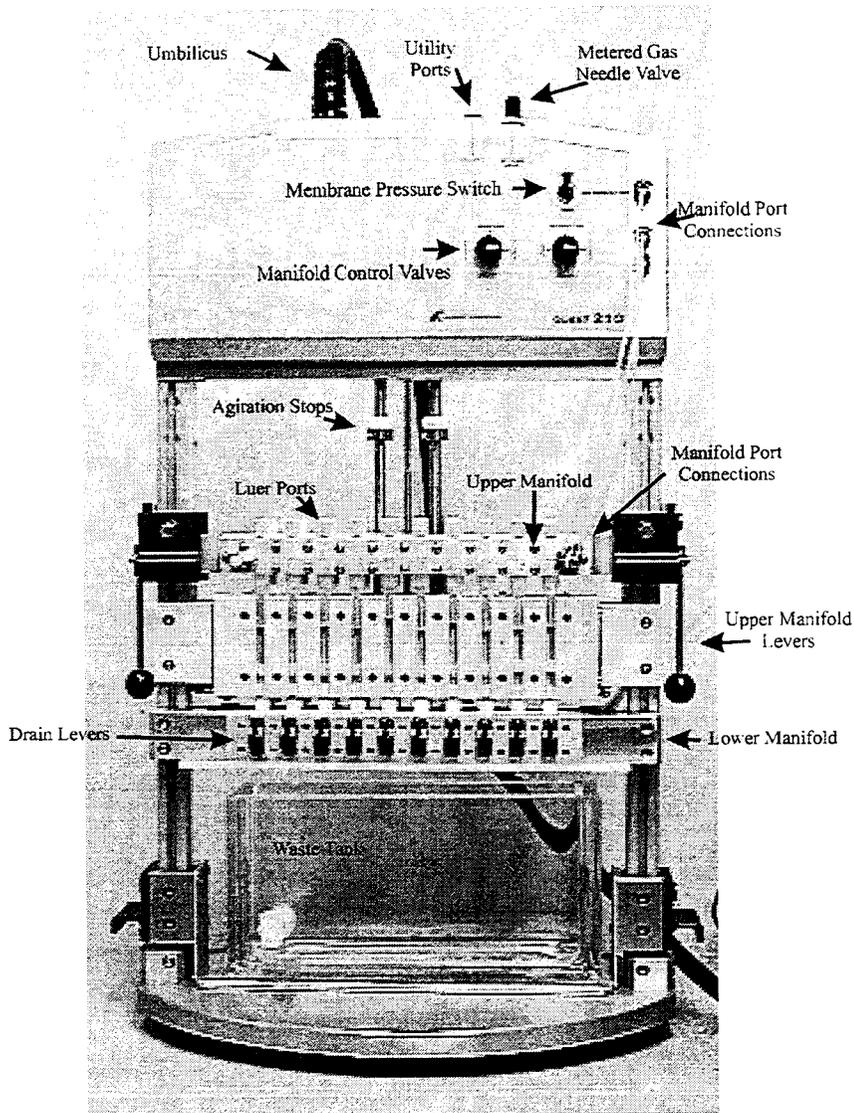

Figure 2. Quest 210 Reactor Unit
- Familiarize yourself with the nomenclature and various components of the Quest Reactor Unit (**Figure 2**).
2. Use the 7/64” hex wrench supplied with the Quest to loosen the Agitation Stops. Adjust the Agitation Stops on the Reactor Unit so the maximum magnet height is ~2 cm below the solvent level in the RVs. Tighten the Agitation Stops so both stops are at the same height (see **Figure 2**).